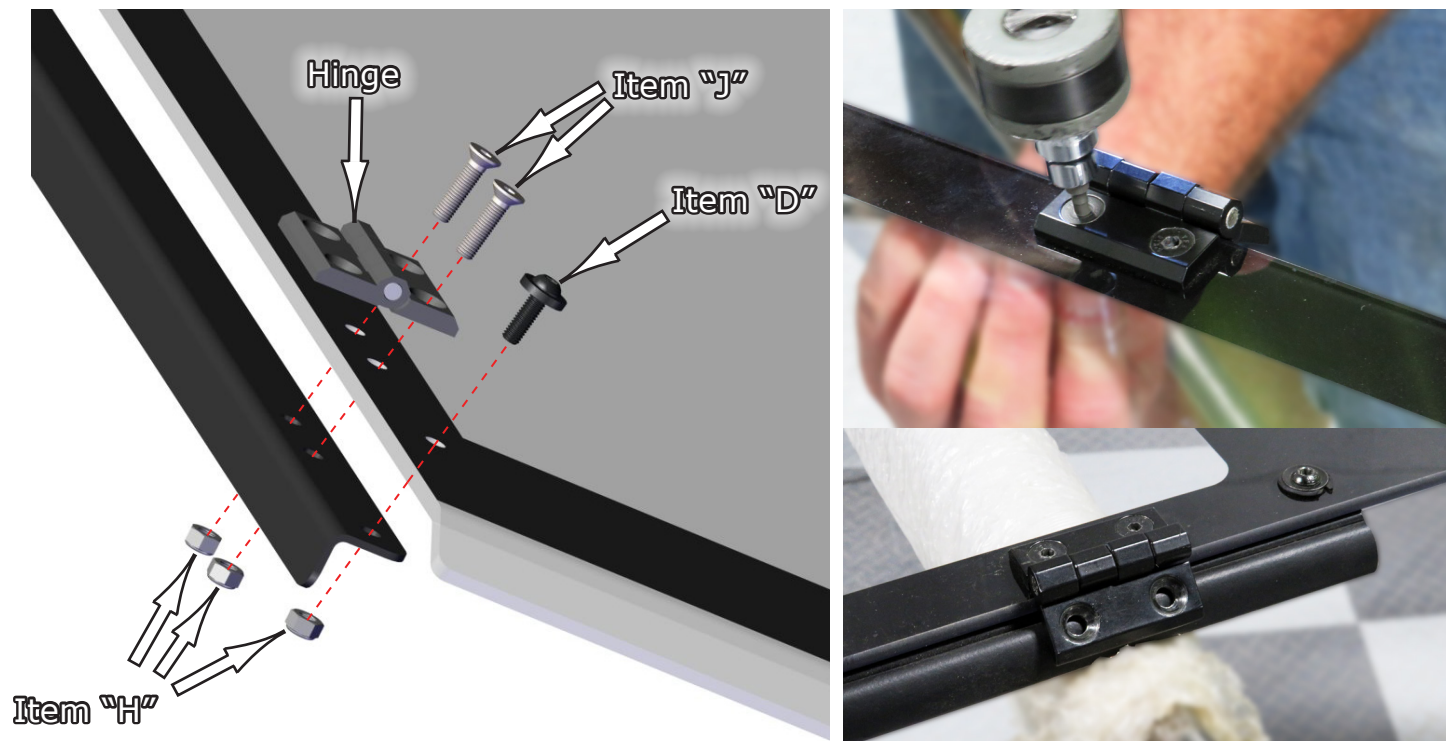

Fig.11
11. Now install the Bracket and Seal to the Main Windshield along with the Hinges. It is easier to install the Bracket-8 with the two outer corner bolts first, and then mount the Hinges. Snug all bolts, but do not tighten until all bolts have been threaded into place. Then adjust and tighten. You will install the corner locations using the M6x20 Seal Washer Bolt, **Item "D"** and M6 Nylock Nut, **Item "H"** from your kit. Then install the 3 Hinges to the Windshield using the M6x25 Flat Top Bolts, **Item "J"** and M6 Nylock Nuts, **Item "H"** also in your kit. **See Fig.11.**